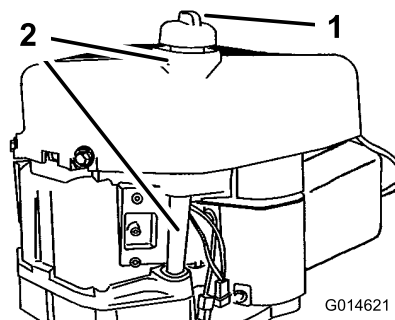

Figure 34
2. Clean around the oil dipstick (Figure 34) so that dirt cannot fall into the fill hole and damage the engine.
10. Clean around the oil dipstick and unscrew the cap (Figure 34).
11. Slowly pour approximately 80% of the specified oil into the filler tube (Figure 34).